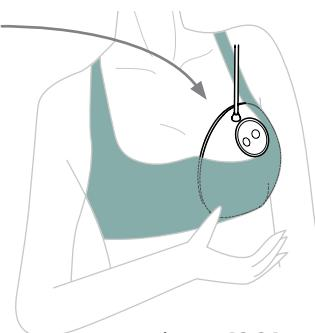

Figure 12.2.1
1. Place the preconditioning unit into the bra (from above), aiming to position the nipple in the center of the cup (Figure 12.2.1).